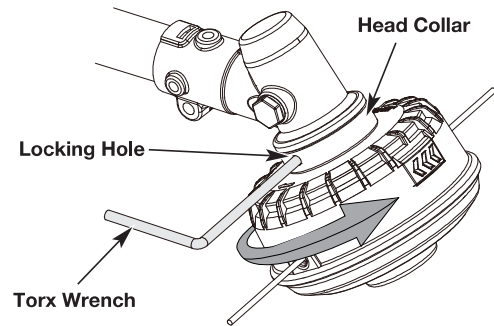

Fig. 18
1. Rotate the head collar until the outer visible locking hole aligns with the inner locking hole beneath the head collar. (Fig. 18)